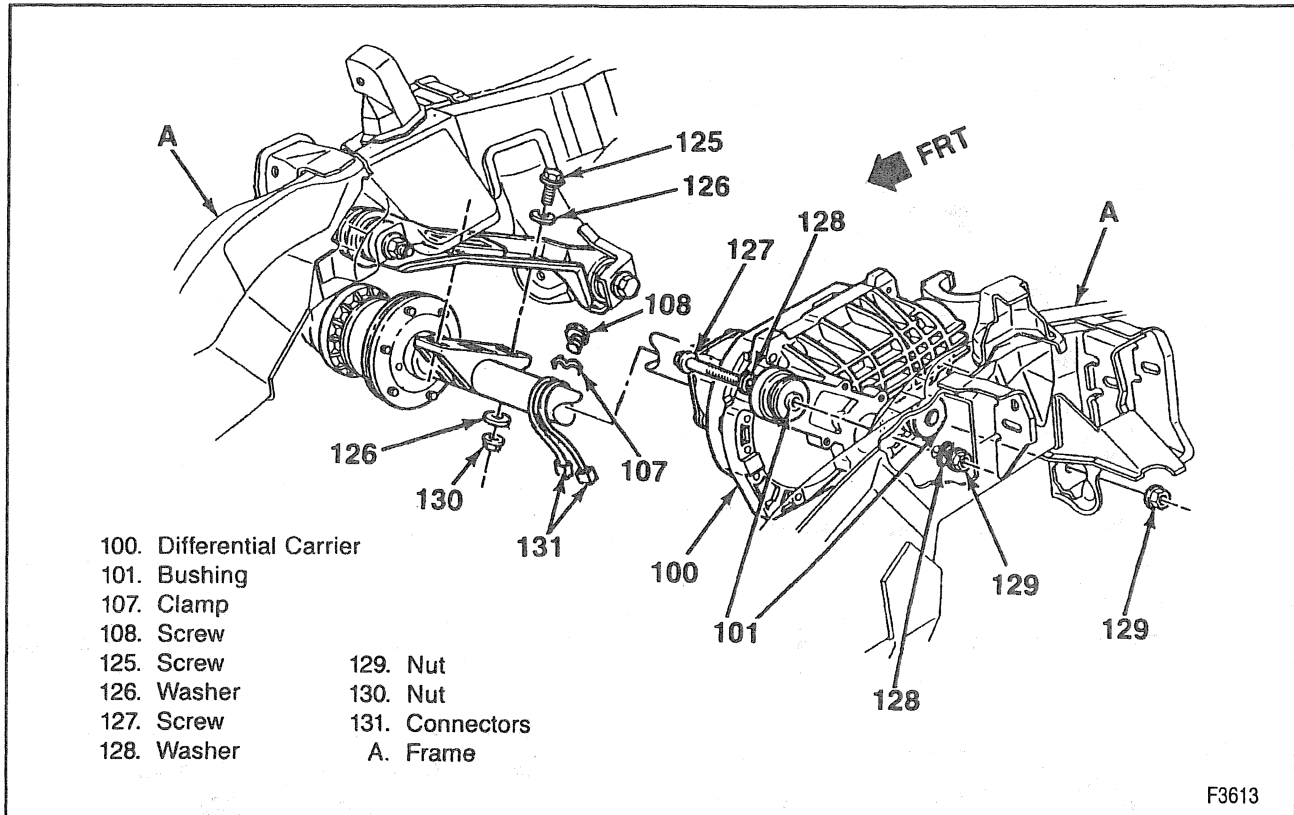

Figure 24—Differential Carrier Mounting
7. Axle mounting nuts (130) and washers (126) (figure 24).
8. Axle tube to carrier bolts (6).
5. Axle mounting nuts (130) with washers (126) (figure 24).